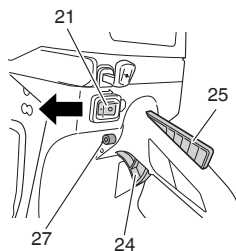

Fig. 22
1. Set stop switch (21) to ON position. (Fig. 22)
4. Fully pull the throttle lever (24) while pressing the throttle lever lockout (25). Then press the throttle lock (27). This will automatically lock to half throttle, to aid in starting the engine. (Fig. 22)